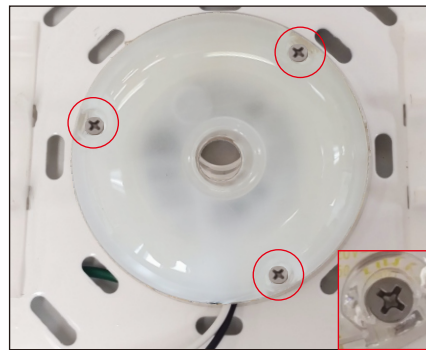

Figure 3
3. Use the supplied self-drilling screws (B) to attach the DirectAC Engine (A) to the luminaire plate. See figure 3.